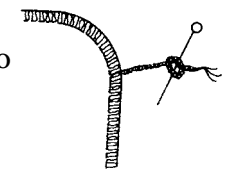
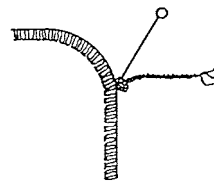
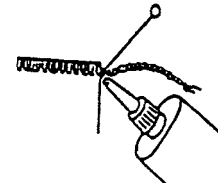

Figure 19.
Figure 20.
Figure 21.
- **Knotting.** Tie a loose knot so that a straight pin can be slipped through the center of the loop (Figure 19). Gently use the pin to work the knot down the thread until it lies against the stitching at the edge of the fabric. Pull the knot tight around the pin and slip the pin out of the knot (Figure 20). Place a drop of seam sealant such as Fray Check® or Seam Saver® on the knot (Figure 21). Clip any remaining thread ends.